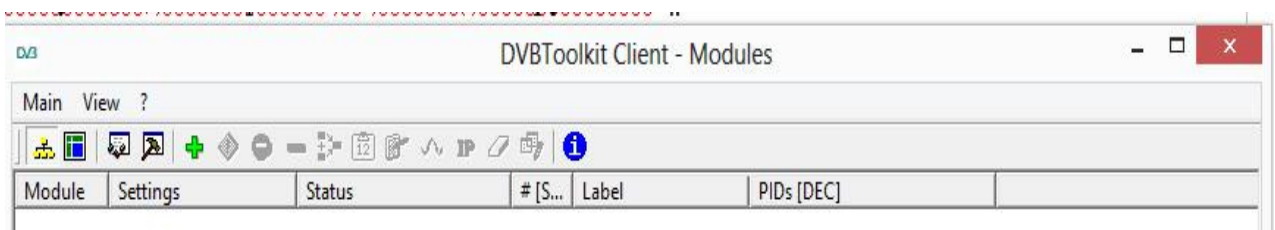

Fig..3.11
- click icon In the main window toolbar (Fig..3.11)
Click icon «IP» on the toolbar (Fig..3.11)